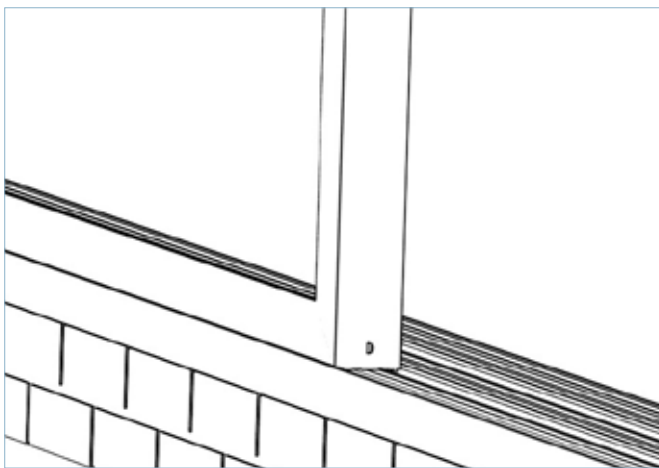

FIG 18
7. The sash can be levelled by adjusting the roller using a Hex 5 or PH2 long screwdriver depending on roller carriage used. The roller adjustment can be located at the bottom side of the sash (interlock side) (FIG 18)